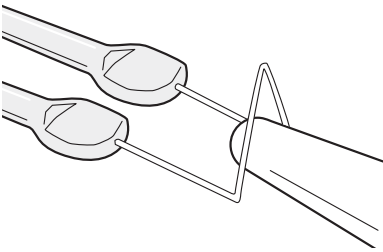

Fig. 17— Position pipette under the loop
8. Position the filament so the top of the looped end is in the field of view. Using the reticle, note the location of the inside edge of the filament. Move the filament, looped end up, closer to the objective until the looped end is out of view. This allows the pipette to be placed under the filament and still be in the field of view (Fig. 17).
Wait until the air turns off, and then turn the air back on by pressing the AIR button on the instrument panel. Hold the RUN button down until the tip forms properly (Fig. 17). This procedure may be tried a few times before acceptable results are obtained.